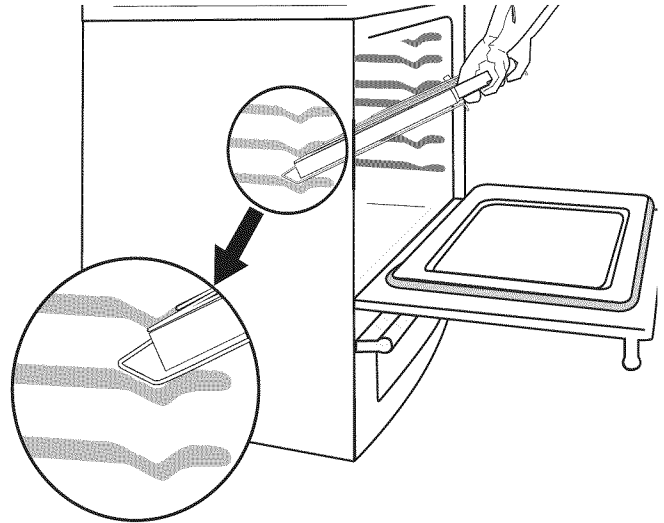

Figure 18: Correct angle to remove or insert the **Glide** rack.
3. Grasp the **Glide** rack on both sides and gently lift it up to allow the rack to move past the stop position (Figure 18) and remove the rack. When replacing the rack into the oven, set the **Glide** rack into the desired rack position by using the directions in step 3 in reverse.